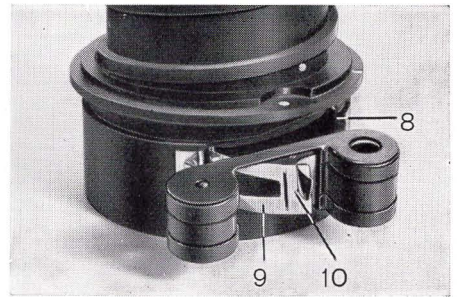
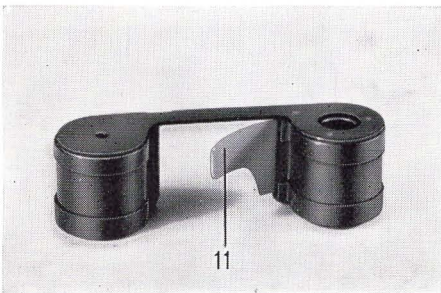

fig. 6
fig. 5
At the free end of tongue (9) there is a vertical slit (10) in which the tail end of the film (11) - fig. 5 - will be inserted. To do this hold magazine in position as shown in fig. 6. The bar connecting the two car-